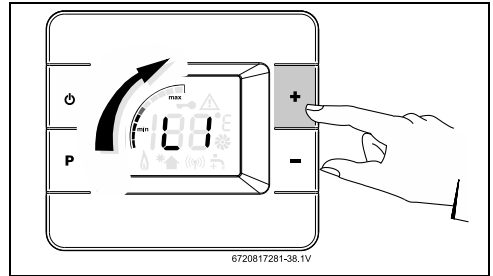

Fig. 47 Gas adjust - L1 parameter
- ▶ Press the button **P** to enter L1 and verify if power bar level is at middle point, see fig. 47.